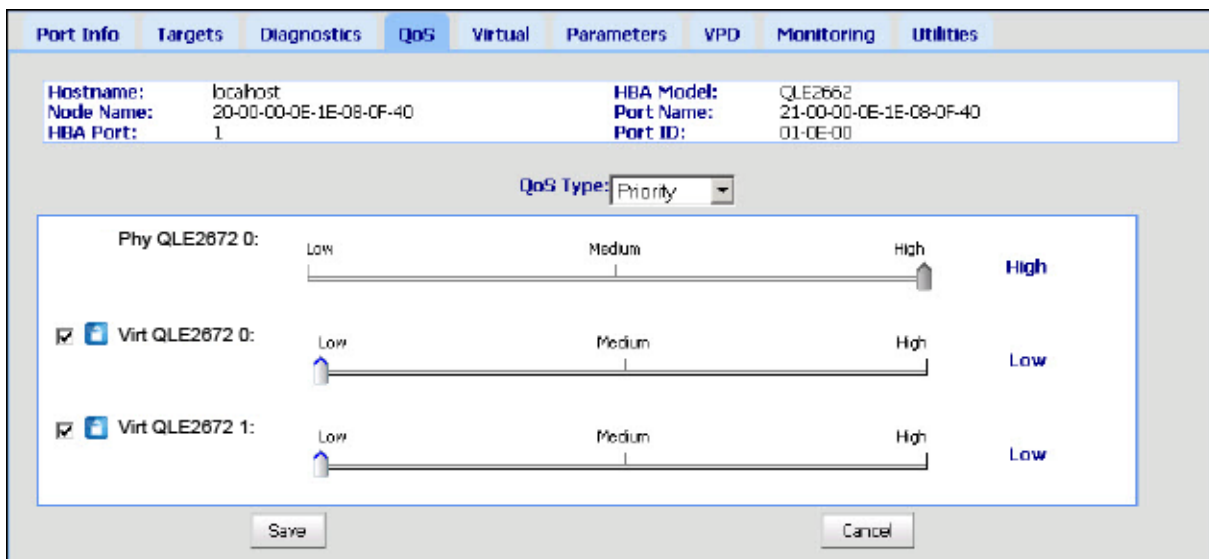

Figure 3-10. Setting the QoS by Priority
5. Move the slider to select a low, medium, or high priority, as shown in Figure 3-10.